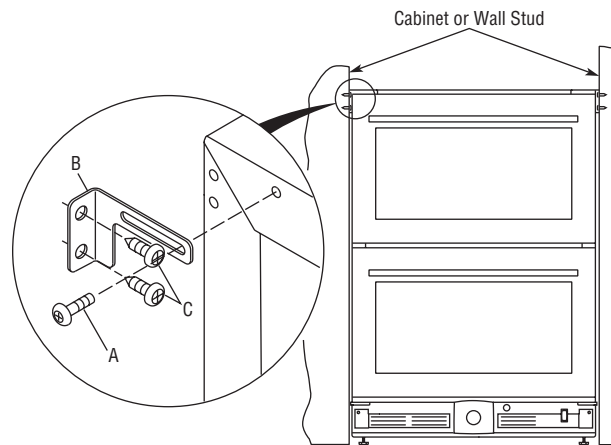

Figure 20
1. Open the upper drawer to expose the six screws (A) installed at the top two corners (three at each corner). Remove the appropriate screws for horizontal or vertical mounting (see **Figure 20**). Do not discard.